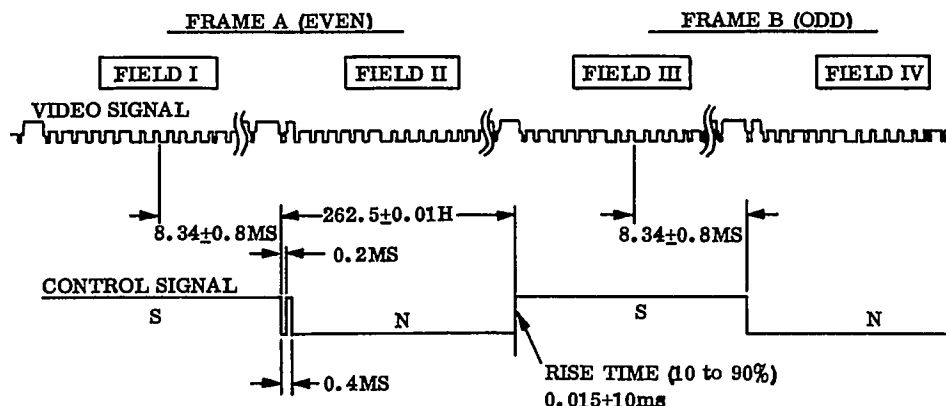

FIGURE 2. TRACKING CONTROL RECORD WAVEFORM
- a. Figure 2 shows the tracking control waveform and timing.